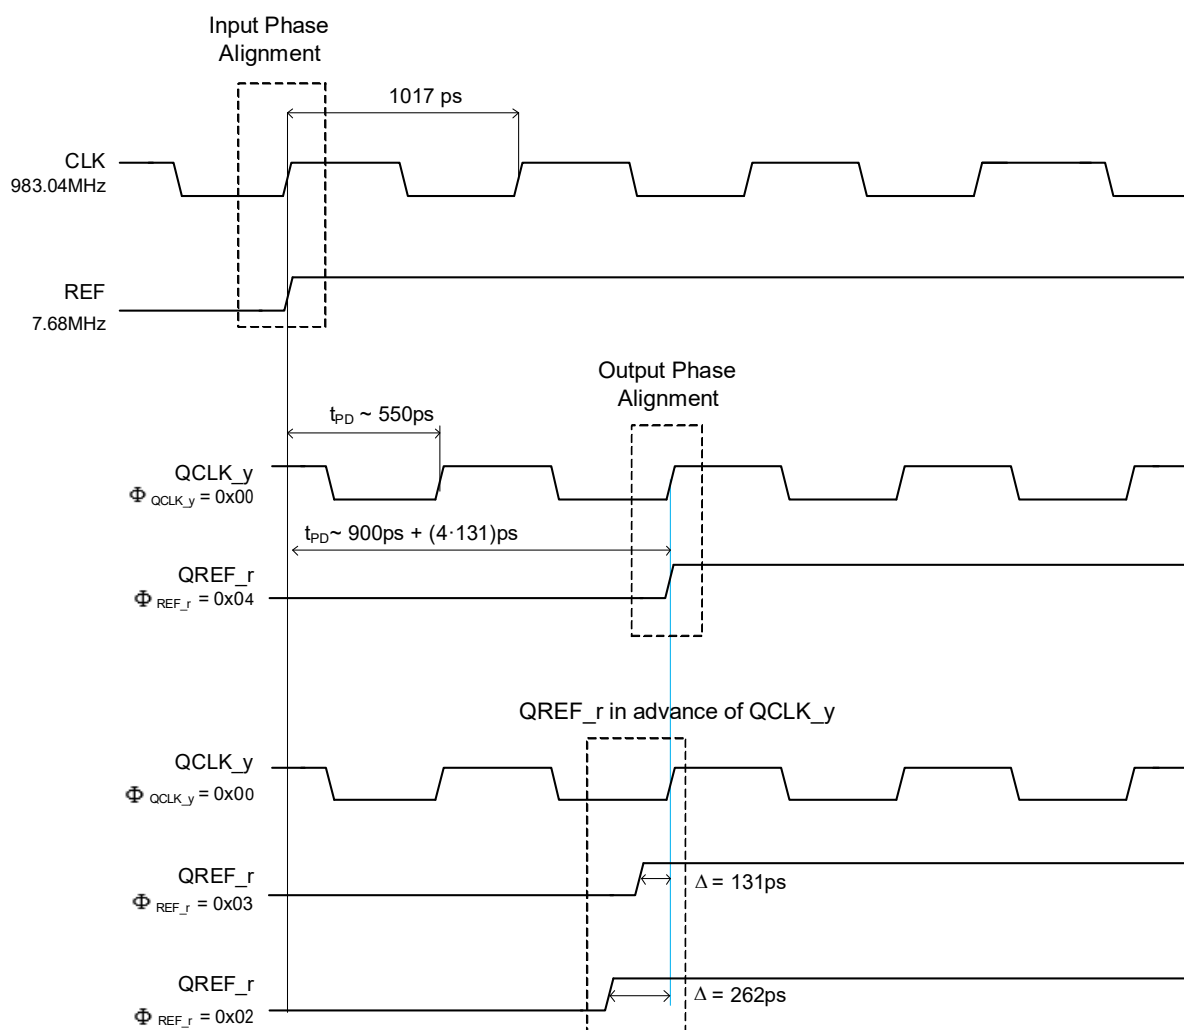

Figure 8. QCLK\_y to QREF Phase Alignment
**Single Device:** To achieve an output phase alignment between the QCLK\_y clock and the QREF\_r SYSREF outputs, the CLK and REF input signals must be phase aligned or have a known, deterministic phase relationship. Figure 8 shows an example output phase alignment for aligned clock and SYREF inputs. The closest (smallest phase error) output alignment is achieved by setting the clock phase delay register  $\Phi_{\text{QCLK\_y}}$  to 0x00 (clock) and the SYSREF phase delay register  $\Phi_{\text{QREF\_r}}$  to 0x04. With a SYSREF phase delay setting of 0x03 or less, the QREF\_r output phase is in advance of the QCLK\_y phase, which is applicable in JESD204B/C application. Phase delay settings and propagation delays are independent on the clock and SYSREF frequencies. Table 24 shows recommended phase delay setting several device configurations.